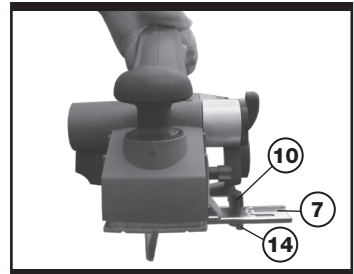

Fig. 8
7. THE WIDTH AND DEPTH OF RABBET CUT(See Fig.8)